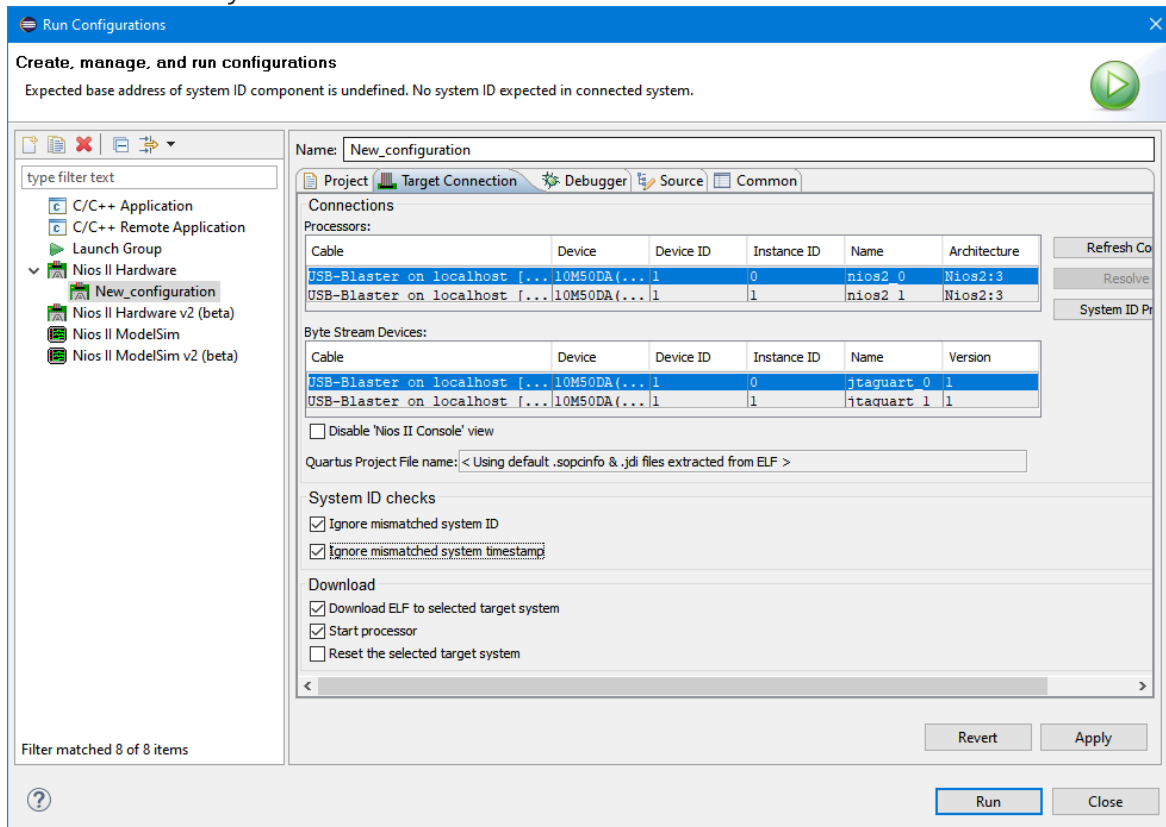

Figure 4: Target Connection Tab
- i. Tick “Ignore mismatched system ID” and “Ignore mismatched system timestamp” shown in Figure 4. Then click “Refresh Connection” to display the device. The downloaded hardware configuration will contain two different options, either option will work.